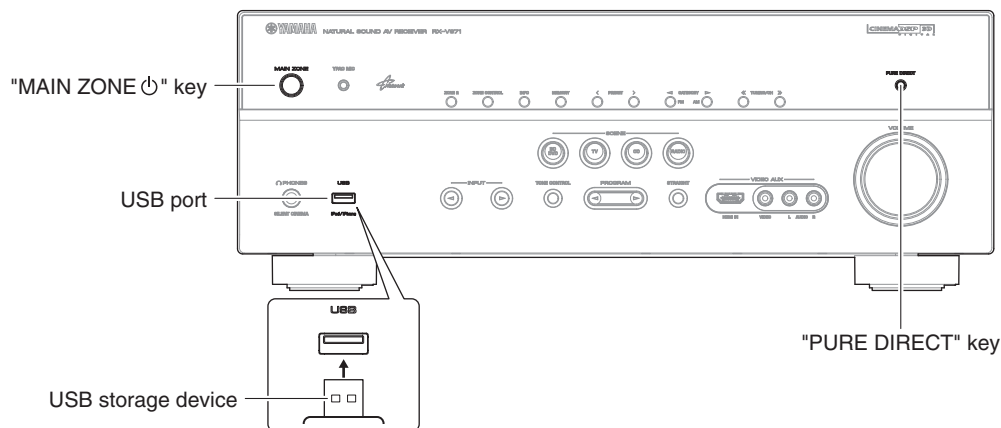

Fig. 1
1. Insert the USB storage device to the USB port. (Fig. 1)
2. While pressing the "PURE DIRECT" key, connect the power cable to the AC outlet. (Fig. 1)
5. Press the "MAIN ZONE" key to turn off the power. (Fig. 1)
6. Remove the USB storage device from the USB port. (Fig. 1)